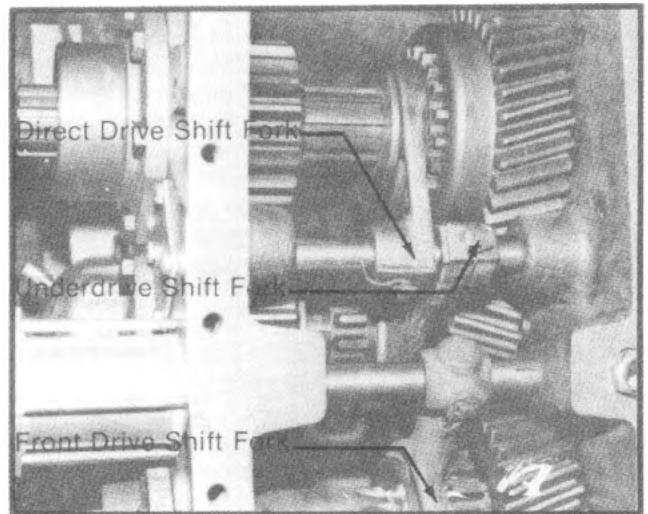

Fig. 28 Single Rear Output Transfer Case Shift Fork Positions
1. Place each shift fork on its proper clutch gear. The position of the *upper* and *intermediate* shaft clutch gear forks will differ according to transfer case style: The single rear output case shift forks are assembled as follows: (refer to fig. 28).